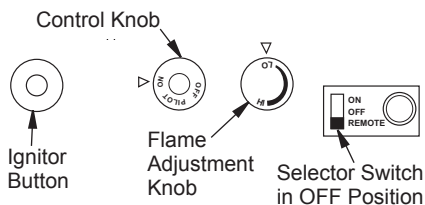

Figure 32- Control Knob and Ignitor Button Location
4. Press in and turn control knob clockwise  to the OFF position (see Figure 32).
5. Wait five (5) minutes to clear out any gas. Then smell for gas, including near the floor. If you smell gas, STOP! Follow B in the safety information, page 22. If you don't smell gas, go to the next step.
6. Press in and turn control knob counterclockwise  to the PILOT position. Press in control knob for five (5) seconds (see Figure 32).